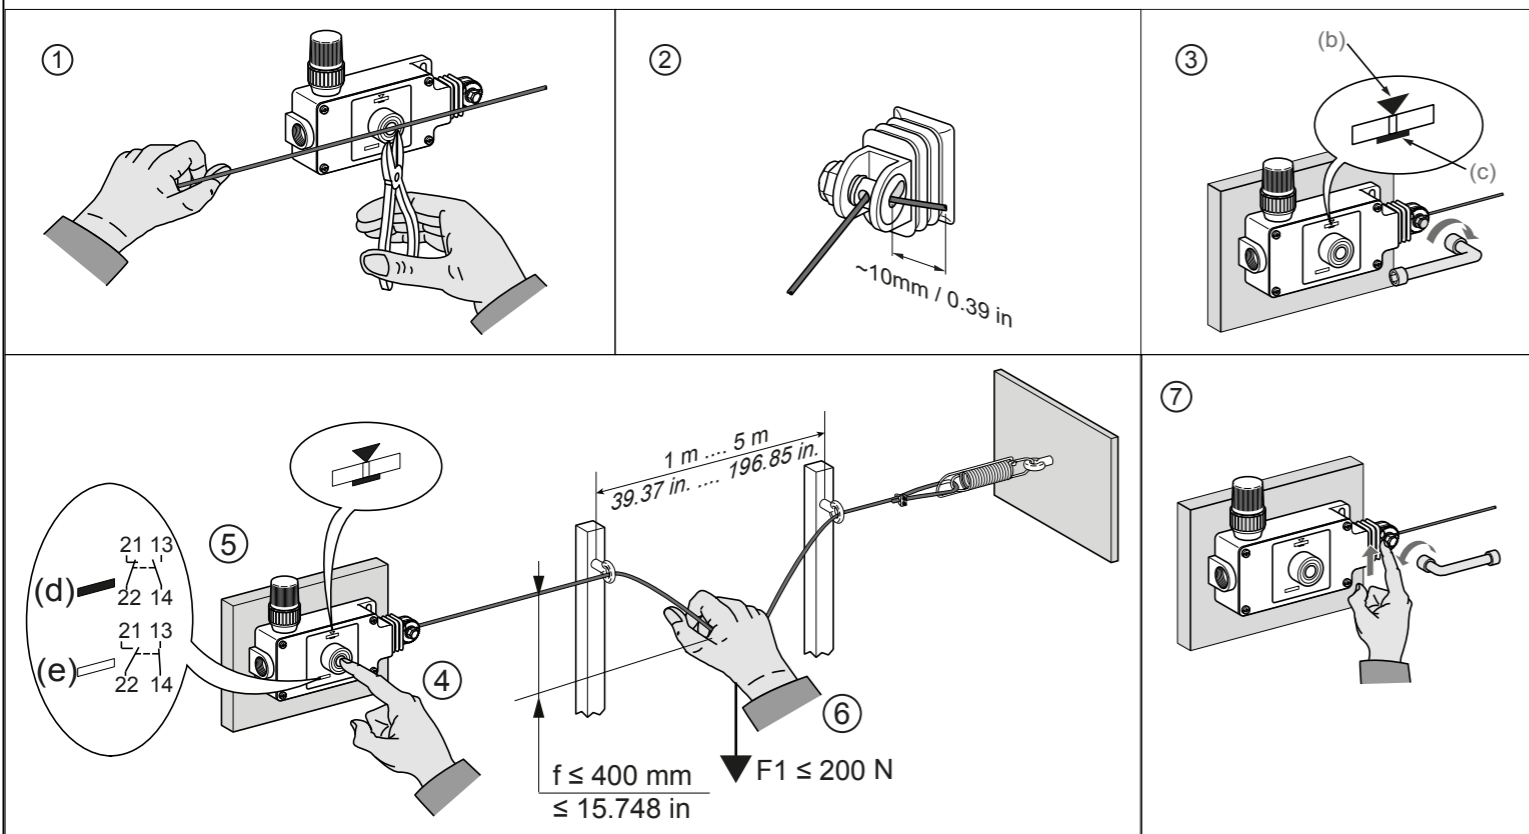
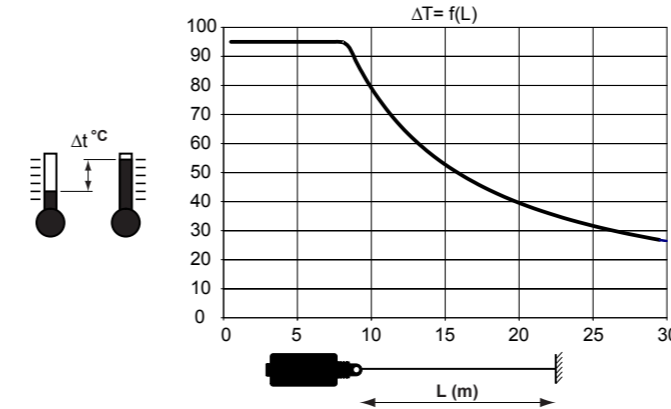

Fig. 3 $\Delta T = f(L)$
Fig. 4
8. To release the cable: push the hooking ring with your finger , then untighten the nut as required, based on the maximum allowable operating temperature variance (fig. 3) and take into account the table from the fig. 4.